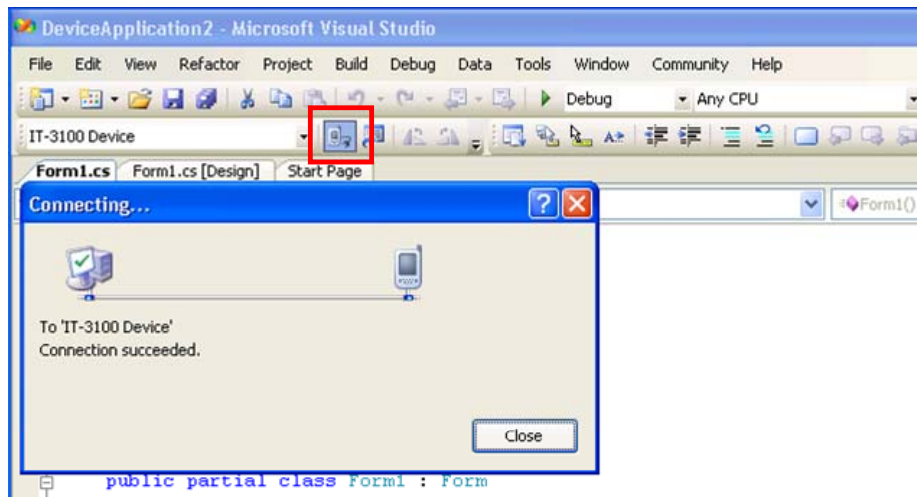

Figure 6.1
3. Click the button shown in the red box below (see Figure 6.1) to make sure that Visual Studio 2005 has recognized the connection established with the IT-3100 via ActiveSync. If it does not, start up ActiveSync again to establish connection.